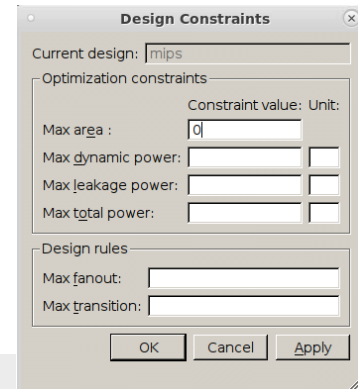

Figure 10: Defining area constraint
2. Specify a Max area of 0 as depicted in Fig 10. This is not realistic but this will tell DC to minimize the area without too much computation effort.